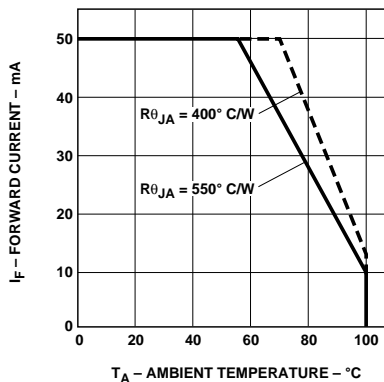

Figure 6. Maximum Forward DC Current vs. Ambient Temperature. Derating Based on  $T_{JMAX} = 110^\circ\text{C}$ .
3. Derate linearly as shown in Figure 6.